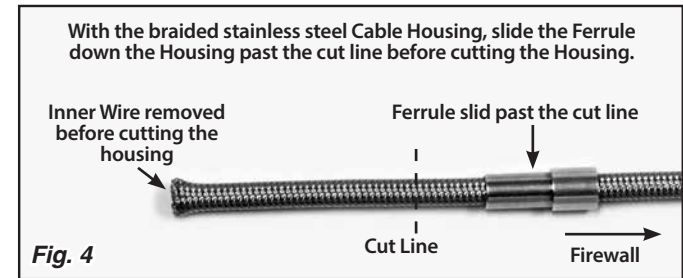

Fig. 4
Step 6: Make sure that the inner wire is removed from the cable housing. If the cable housing is braided stainless steel, slide the ferrule up the housing towards the firewall, away from the end that is being cut. **Fig. 4**